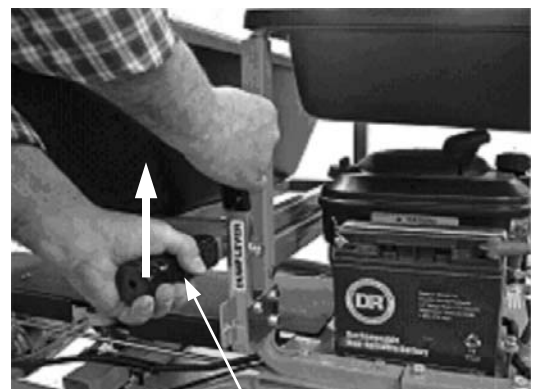

Figure 9
1. Pull the Dump Lever Handle straight out (**Figure 9**), then pull up on the Bed Handle to dump the load (**Figure 10**).
2. Tip the Bed forward (**Figures 9 and 10** on page 17).